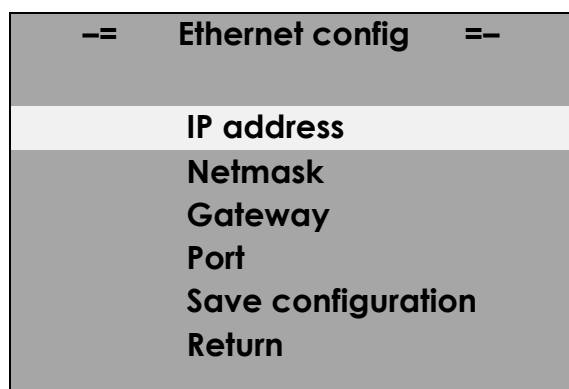

Figure 3.6
3.4.5 «**Ethernet config**» menu is intended for adjusting communication interface between activator and computer. This menu consists of following commands (Figure 3.6):